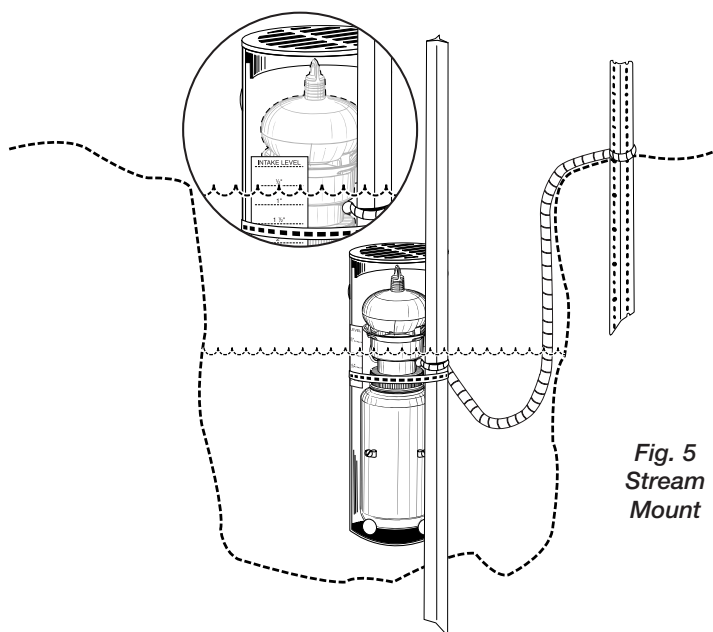

Fig. 5
c. **Stream Mounting** (Figure 5.)